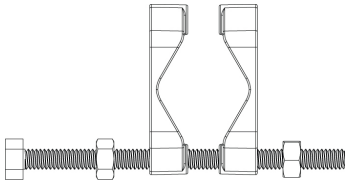

Figure 2
5. Screw another hex nut onto the bolt under the motor mounts to hold them in place (see Figure 2).